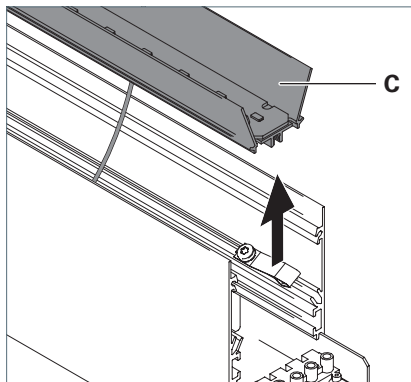

Fig. 20: Taking out the reflector.
- Remove the reflector **C** from the luminaire and place it beside the luminaire, see Fig. 20.